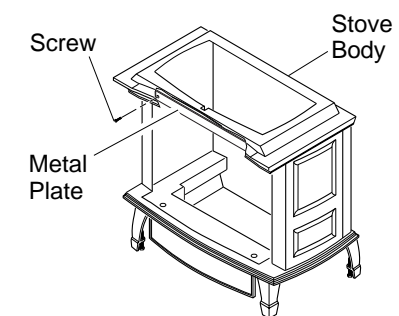

Figure 16 - Removing Metal Plate from Stove Body
18. Remove the two screws that secure the metal plate located across the front section at the top of the stove body (see Figure 16). Discard these screws and metal plate. They are for vent-free use only.